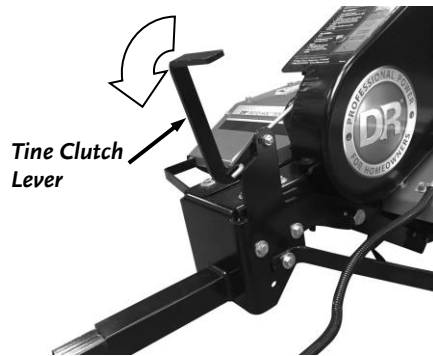

Figure 15
2. Pull the Tine Clutch Lever all the way forward until it locks into place to disengage the Tines (Figure 15).